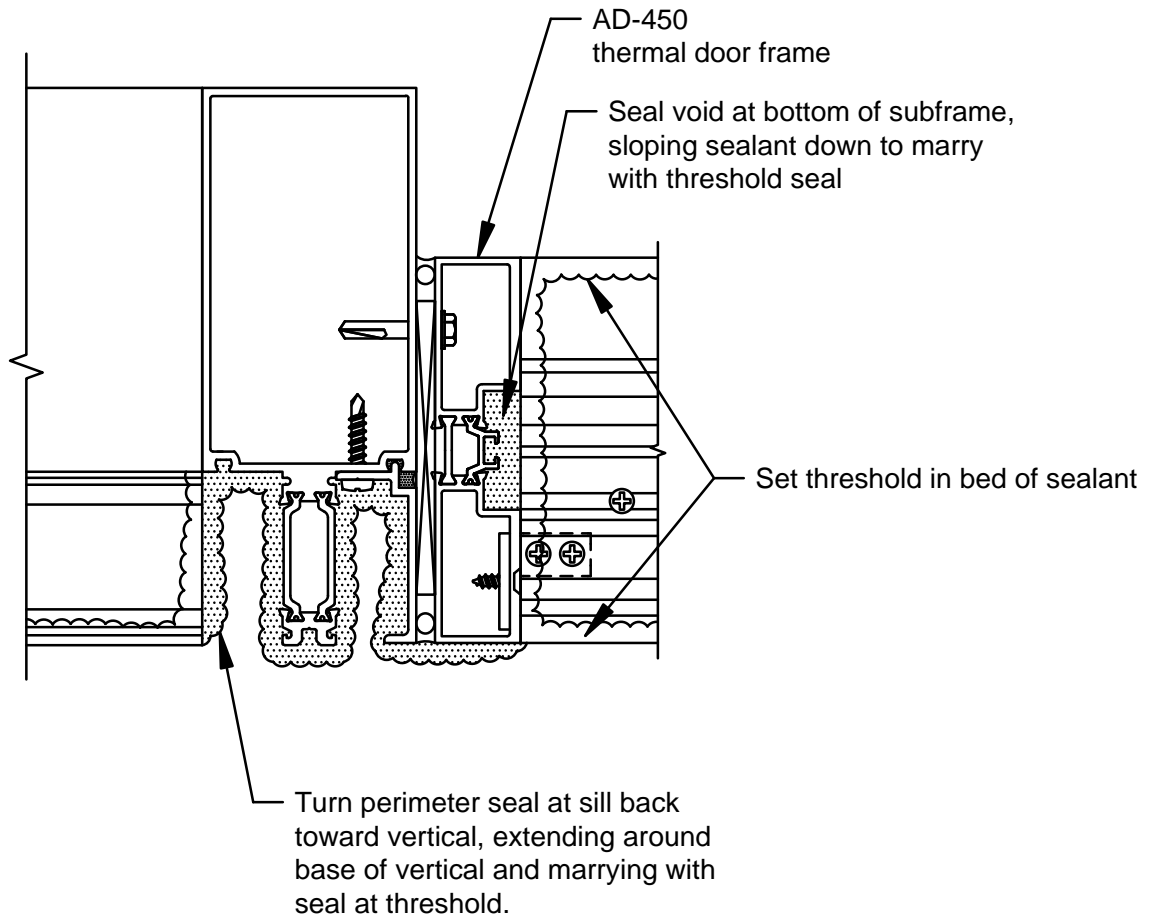

FIGURE 25
C.2.3 Bed subframes in sealant. Anchor to curtain wall framing members with FS-322 #12 x 1" HH STS at 18" O.C. Seal joint between jamb and header subframes. Seal tops of the jamb subframes. SEE FIGURE 25, page 15.
C.2.4 Bed threshold in sealant, attaching to threshold clips with screws provided. Marry threshold seal with subframe and main system seal. SEE FIGURE 25.